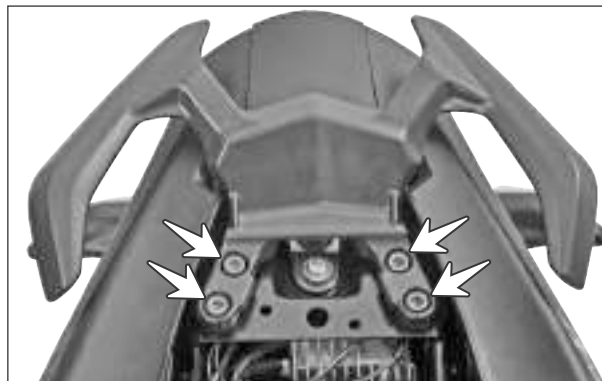

Fig. 2.21
- 2 Remove the hexagonal socket cap screw (M8x25 - 4 nos.) from the mounting of pillion handle and take out the pillion handle. (Fig. 2.21)